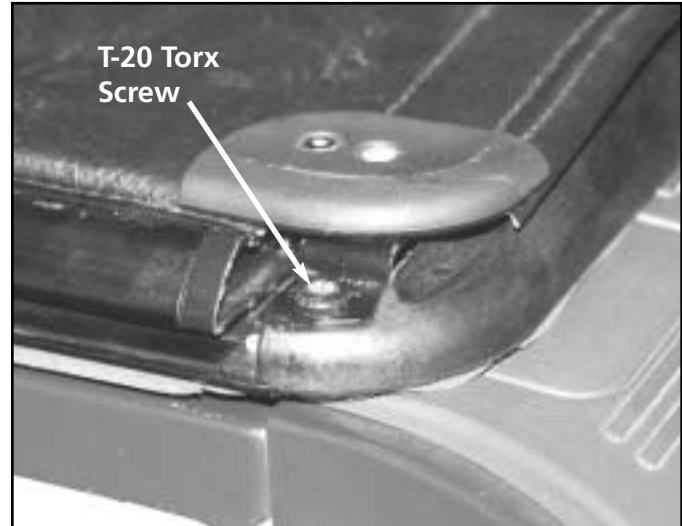

Figure S-49
2. Remove the two (2) slider retainer T-20 Torx screws from the front rail. See figure S-49.
19. Install the two (2) T-20 Torx screws through the slider retainers onto the front rail and fasten. Refer back to figure S-49.